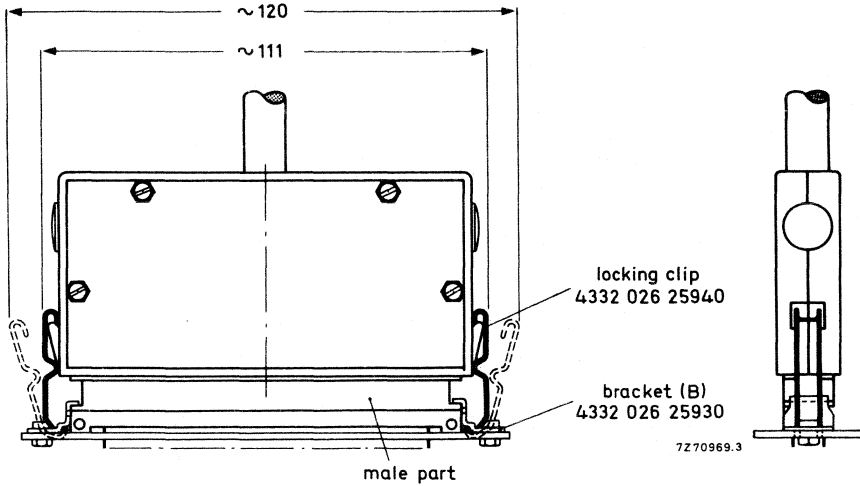

Fig. 45 Cable to panel application.
| bracket (B), see Fig. 45 | 25930 |
| mounting bracket for male part (Fig. 45) | 25930 | 10 |